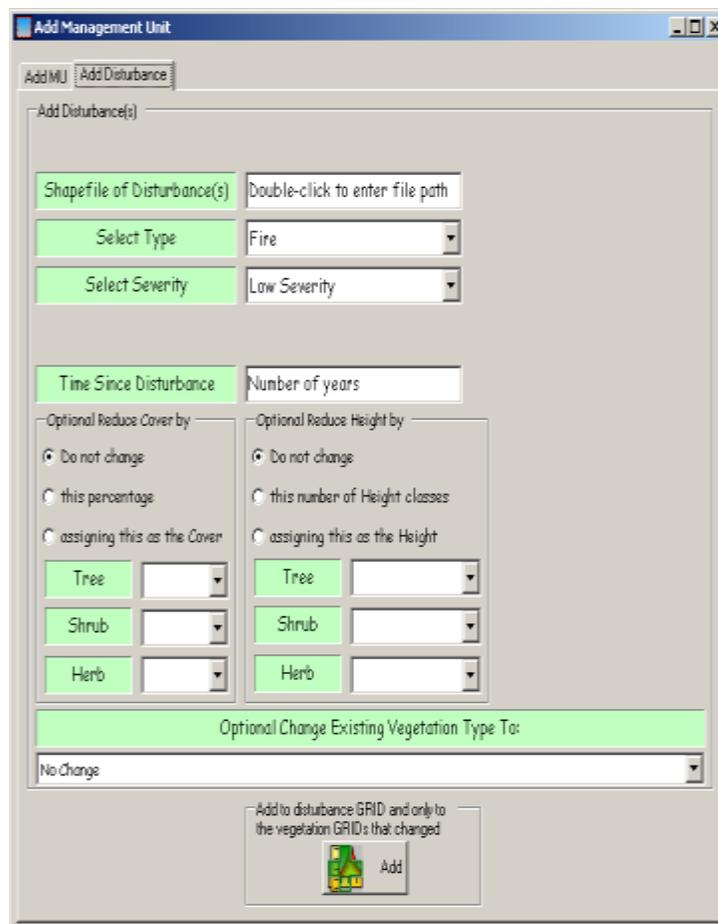

Figure 7-17. **Add Management Unit** dialog box with **Add Disturbance** screen visible.
- To add a disturbance layer, click on the **Add Disturbance** tab at the top of the **Add Management Unit** dialog box to specify the type and specific characteristics of disturbance if desired. (For additional information, review section 3.2.1.) The following screen will open (fig. 7-17).